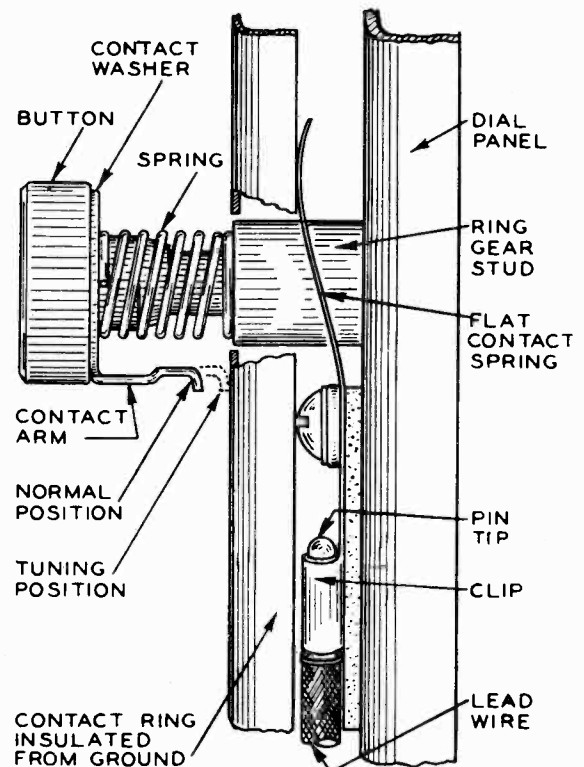

Fig. 5—Silencer Assembly
When a telephone dial button is depressed, a connection is established between the ungrounded end of the volume control and the chassis ground. Referring to Fig. 5 it will be noted that contact is made between the line from the volume control, contact ring, contact washer arm (when button is depressed), spring and ring gear stud. Since the ring gear is at ground potential, this grounds the audio voltage and no signal will be heard until the button is released to break the contact.
**If Noise Occurs on All Buttons**—This is probably due to a poor contact between the flat contact spring and the contact ring—See Fig. 5. Clean the flat contact spring and contact ring to insure a good electrical connection. Ordinary cleaning fluid may be used and will be effective in most cases in cleaning the surface without affecting the plating. If the contact is still not satisfactory, a piece of fine emery cloth may be used.
**If Noise Occurs on One Button Only**—This is due to a poor contact between the ring gear stud, spring, contact washer and contact ring—See Fig. 5. Clean all of these items of the particular button to provide a good electrical connection in the same manner as mentioned above.
Label and number from 1 to 14 each push button shaft in a counter-clockwise direction starting with the shaft to the right of the gang stop pin (when the gang stop pin is at the bottom of the dial). Remove each push button, spring, and push button shaft.—See Fig. 5. Unscrew the five screws which secure the telephone dial drive drum and take off this drum. Unscrew the four brass screws which hold the button spacer ring and contact ring assembly to the ring gear and remove the complete button spacer ring and contact ring assembly (it is not necessary to take off the contact ring from the button spacer ring).